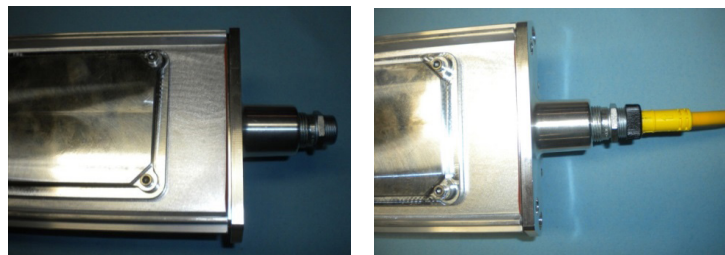
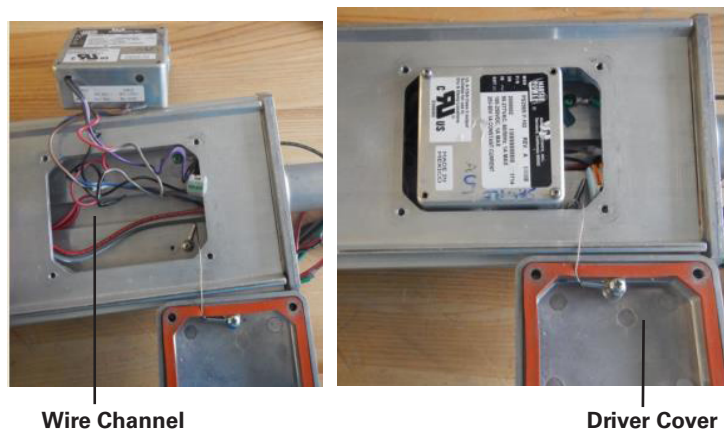

Figure 17
Figure 19
7. Disconnect the input and output leads of the old driver(s) (see Figure 17).
8. Remove the two (2) screws that secure the driver; remove the old driver.
11. Reinstall the new driver into the luminaire, ensuring that output wires to LED boards are tucked neatly into the housing and the input and dimming wire leads are placed in the wiring channel underneath the driver and routed to the input wiring area (see Figure 19).
12. Ensure that the driver is in direct contact with the luminaire housing and no wires are being pinched between the driver and the housing. Secure with two (2) screws and tighten to 5 in.-lb. (0.6 N-m).